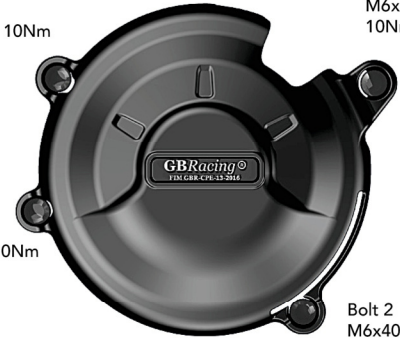

FIG. 1
- 6 Refit the sprocket cover using the 2 existing bolts and tighten as shown in FIG. 1.